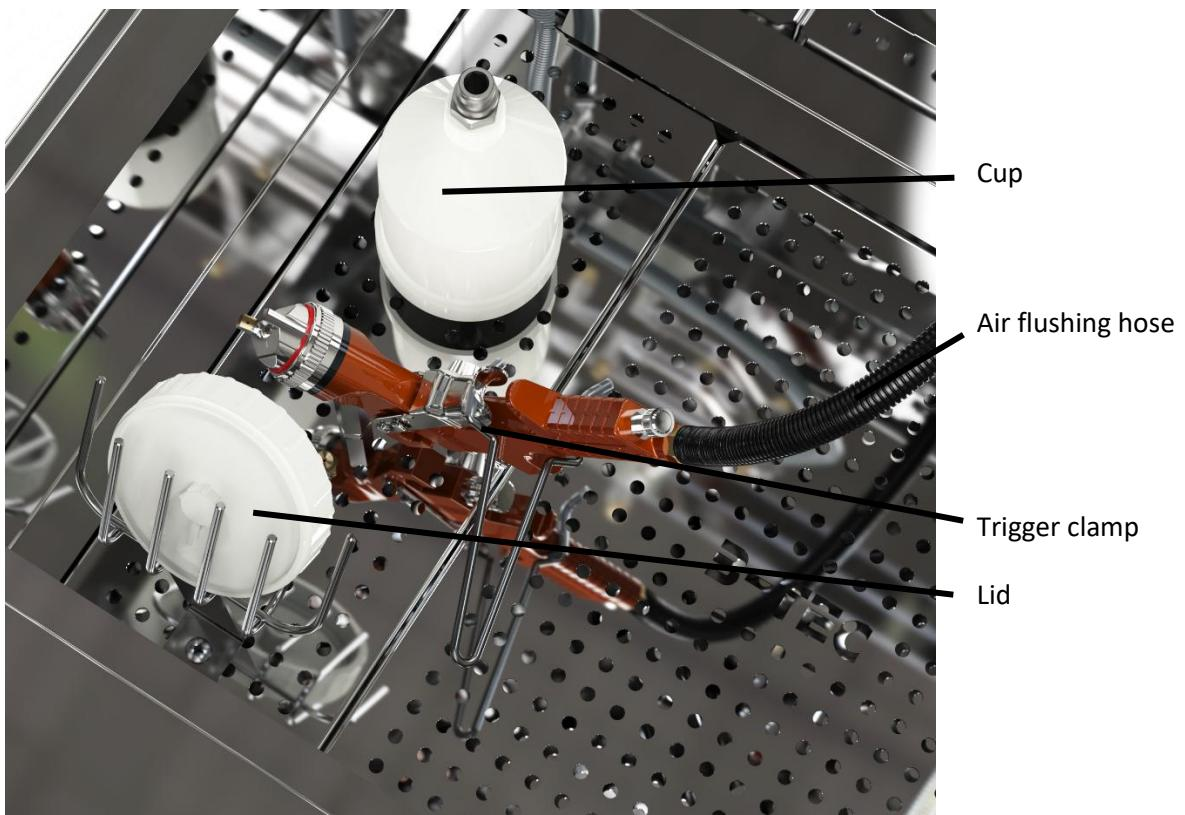

Figure 10-3
4. **Figure 10-3**). This ensures that the paint channel is open for cleaning and that the residual paint runs downwards out of the gun neck.